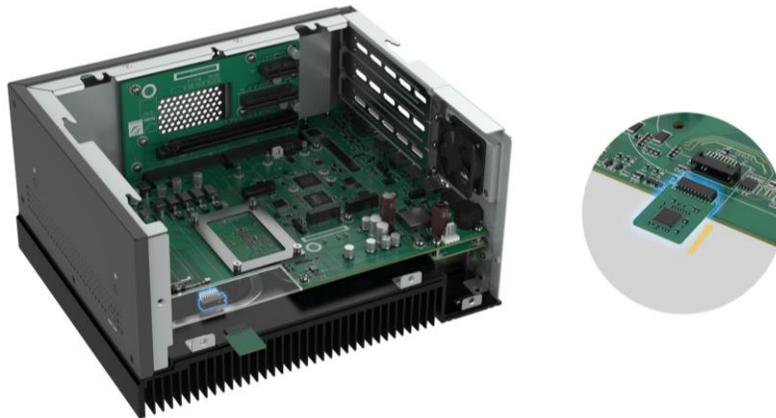

Figure 3-15: Insert the TPM Module
Step 2: Insert the TPM module into the connector. Line up the pins of the TPM module with the pins of the connector (**Figure 3-15**).